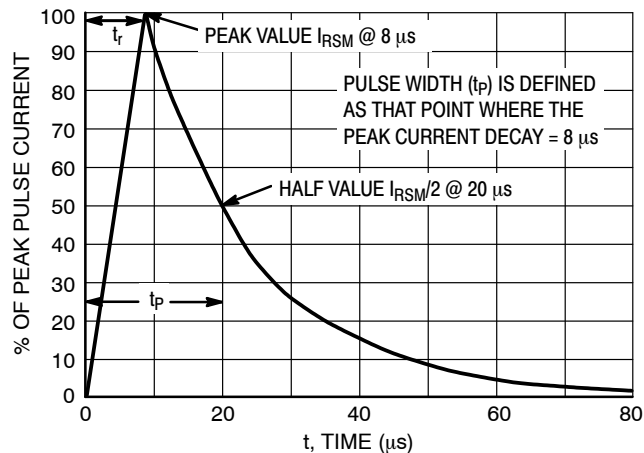

Figure 5. 8 x 20 μ s Pulse Waveform
4. Surge current waveform per Figure 5.